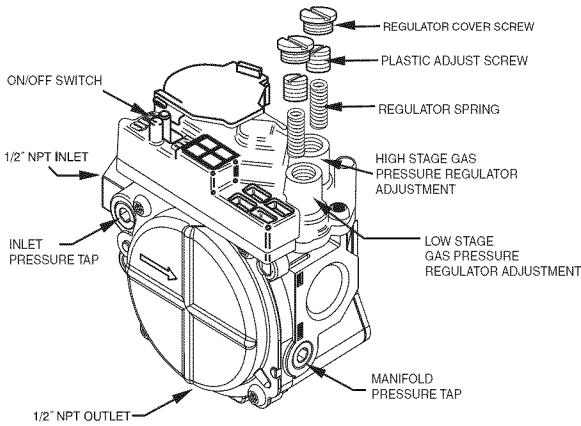

Fig. 19 - Redundant Automatic Gas Control Valve
2. Adjust manifold pressure to obtain low stage input rate (See Fig. 19).
- e. Remove regulator adjustment cap from low stage gas valve pressure regulator (See Fig. 19) and turn low-stage adjusting screw (3/16 or smaller flat-tipped screwdriver) counterclockwise (out) to decrease rate and clockwise (in) to increase input rate.
- 5. Adjust manifold pressure to obtain high stage input rate (See Fig. 19).
- b. Remove regulator adjustment cap from high stage gas valve pressure regulator (See Fig. 19) and turn high-stage adjusting screw (3/16 or smaller flat-tipped screwdriver) counterclockwise (out) to decrease rate and clockwise (in) to increase input rate.